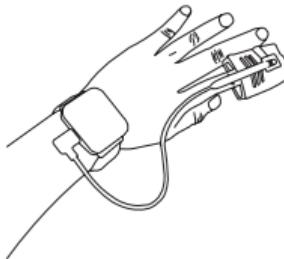

Fig.3-4
2. Place the patient's finger inside the sensor as shown in Fig.3-4.